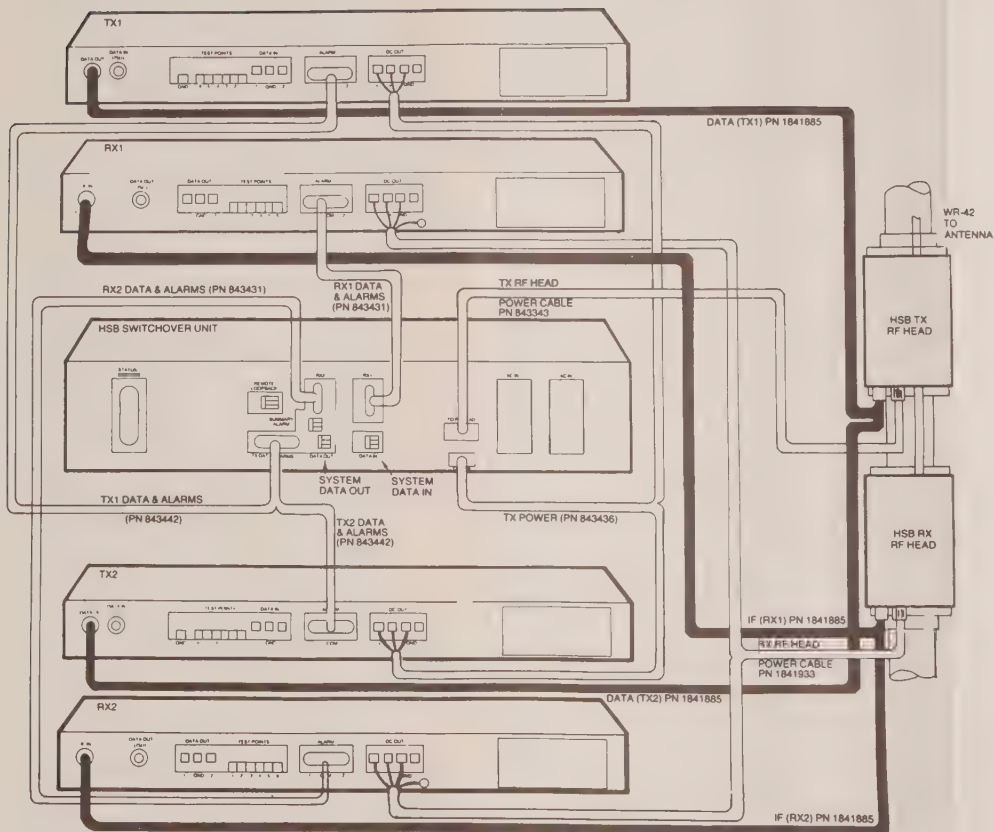

Figure 3-10. One End of Hot Standby Duplex Link
**HOT STANDBY DUPLEX SYSTEMS.** RF and power interconnection cable connections between the indoor units (Hot Standby Switchover Unit, Transmitter Digital Interface Units, and Receiver Digital Interface Units) and the outdoor Hot Standby Duplex RF Assembly are shown in Figure 3-10.